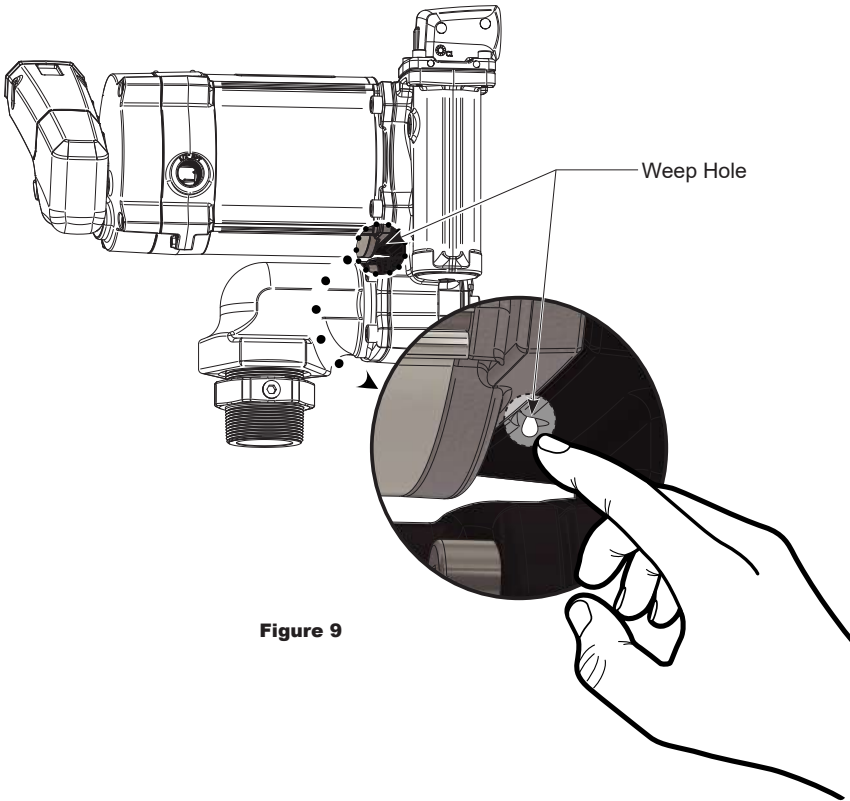

Figure 9
1. Locate small weep hole below the motor housing, on the back of the pump housing to check for a motor shaft seal leak (see Figure 9).